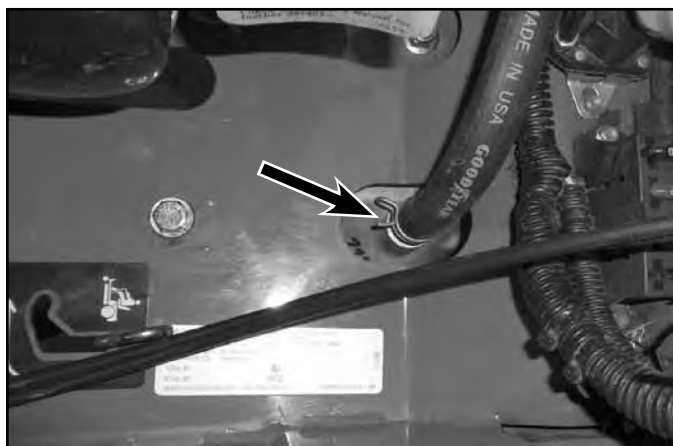

Fig. 088
5. Connect the hydro reservoir hoses at the hydro fitting (Fig. 088).